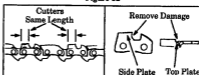

Figure 33
- c.) Cut from inside toward outside of cutter, straight across on forward stroke in one direction only. Use 2 or 3 strokes per cutting edge. Figure 33.
d.) Keep cutter length the same. Figure 33.
e.) File enough to remove any damage to the cutting edges (side plate and top plate) of the cutter. Figure 33.